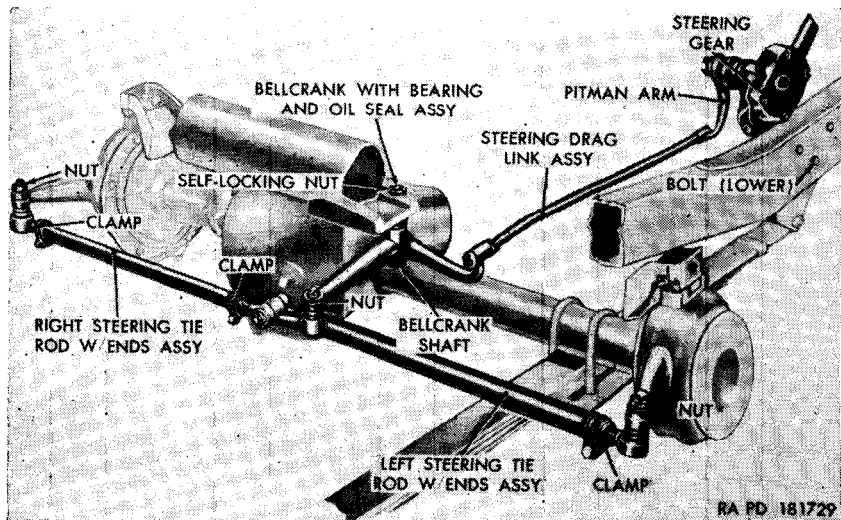

Figure 107. Steering system linkage.
a. Description. The steering system (fig. 107) comprises the steering gear assembly, pitman arm, steering drag link assembly, steering bellcrank assembly, and two steering tie rod with
(figs. 107, 108, and 109)
- (1) Remove the cotter pin from the axle end of the drag link assembly (fig. 107). Unscrew, but do not remove, the ball seat axle end adjusting plug. Lift the drag link assembly off the ball of the bellcrank.
- (2) Remove the cotter pin from the gear end of the drag link assembly (fig. 107). Unscrew, but do not remove,